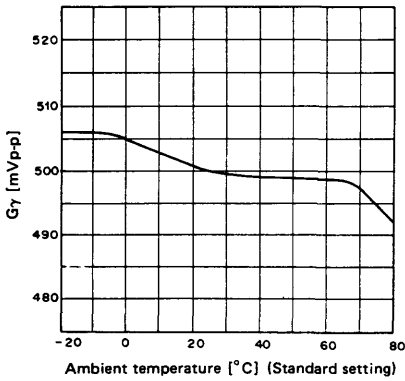

Fig. 9
- [9] γ temperature characteristics (Fig. 9)